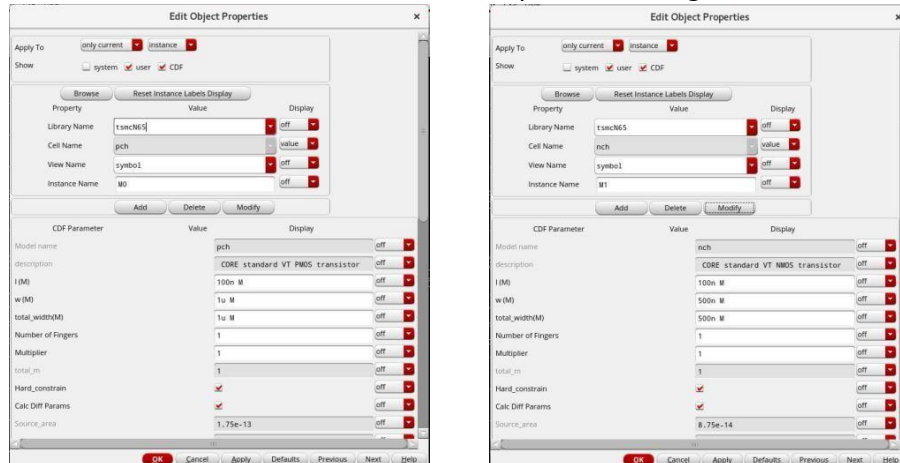

Figure 8: Width and length of PCH & NCH
- The parameters of the PFET need to be changed if they were not changed earlier. To change the parameters of a device use **Edit→Properties→Objects** or use the "**q**" hotkey after selecting the device. In order to compensate for the lower mobility in the PMOS transistor, the width of the PMOS transistor needs to be changed and for this lab make the width of PMOS 2X greater than NMOS (Hint: **PMOS W/L=1/0.1** & **NMOS W/L=0.5/0.1**) shown in figure 8.